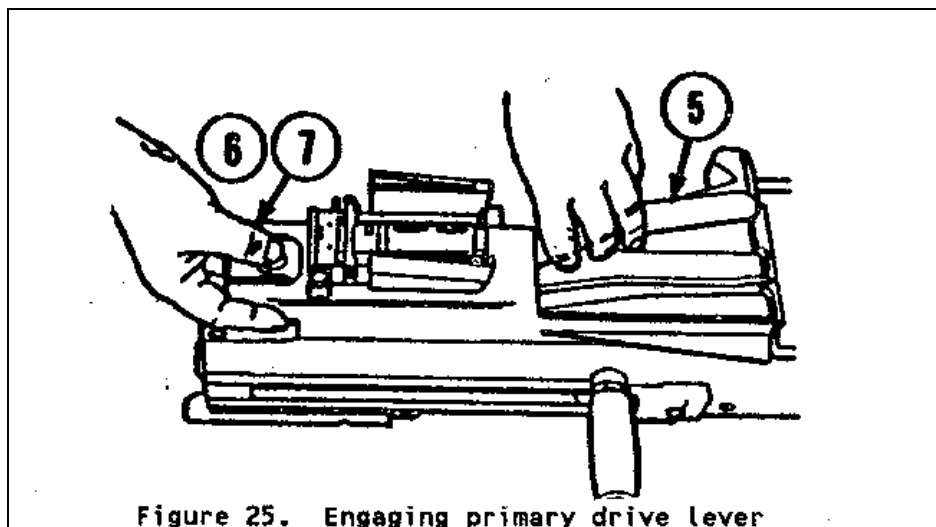

Figure 24. Engaging primary drive lever
- g. Engage Primary Drive Lever. (See Figure 24.)
- (1) While holding vertical cam assembly.
- (2) Slide primary drive lever into receiver.
- (3) Engage pivot post of lever through holes in receiver and vertical cam.
- (4) Slide drive lever lock (on vertical cam) forward.